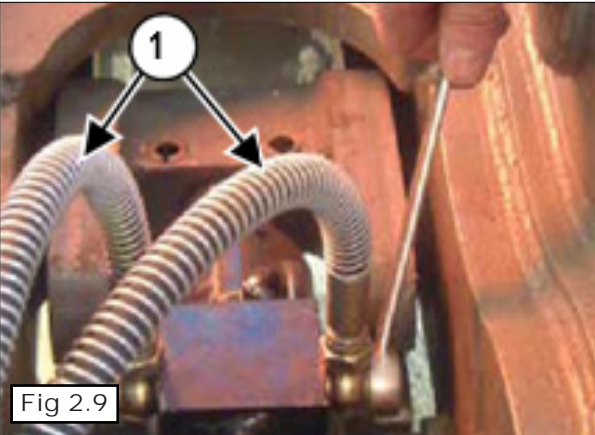

Fig 2.9
Install and tighten the two link hoses (1) [Figure 2.9] to the quick coupler hydraulic cylinder.